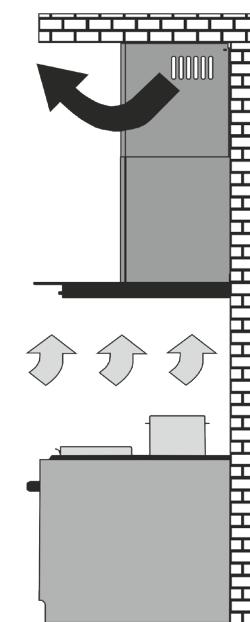

Fig. 2
- ⌚ recirculation (closed-loop kitchen air circulation) (**Fig. 2**).